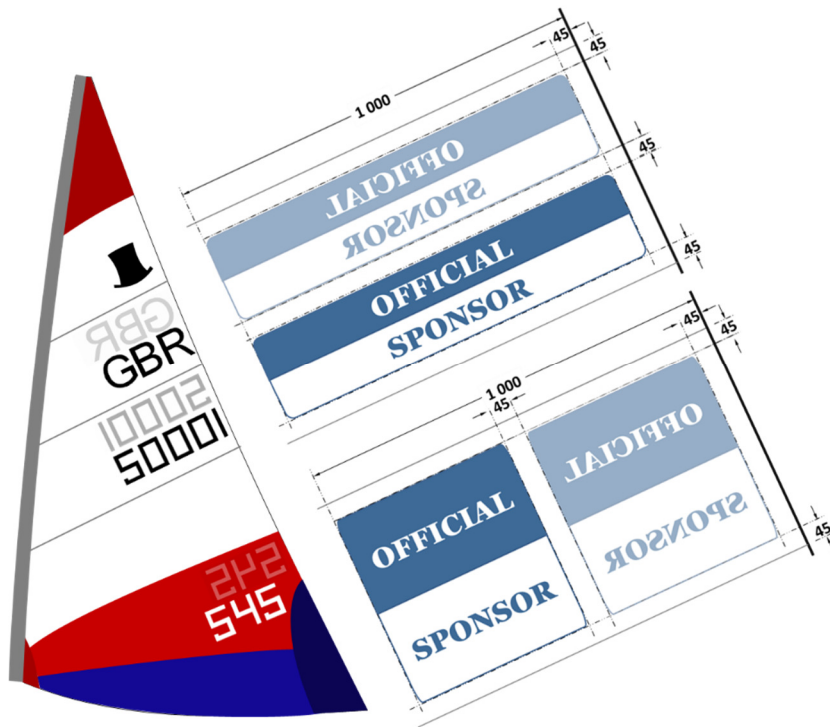
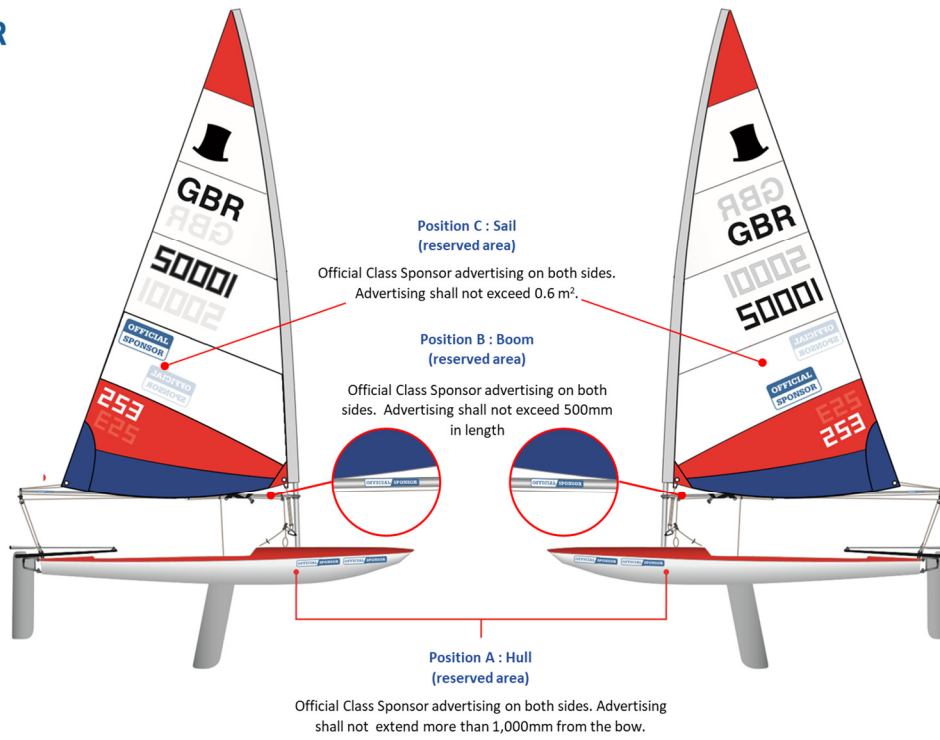
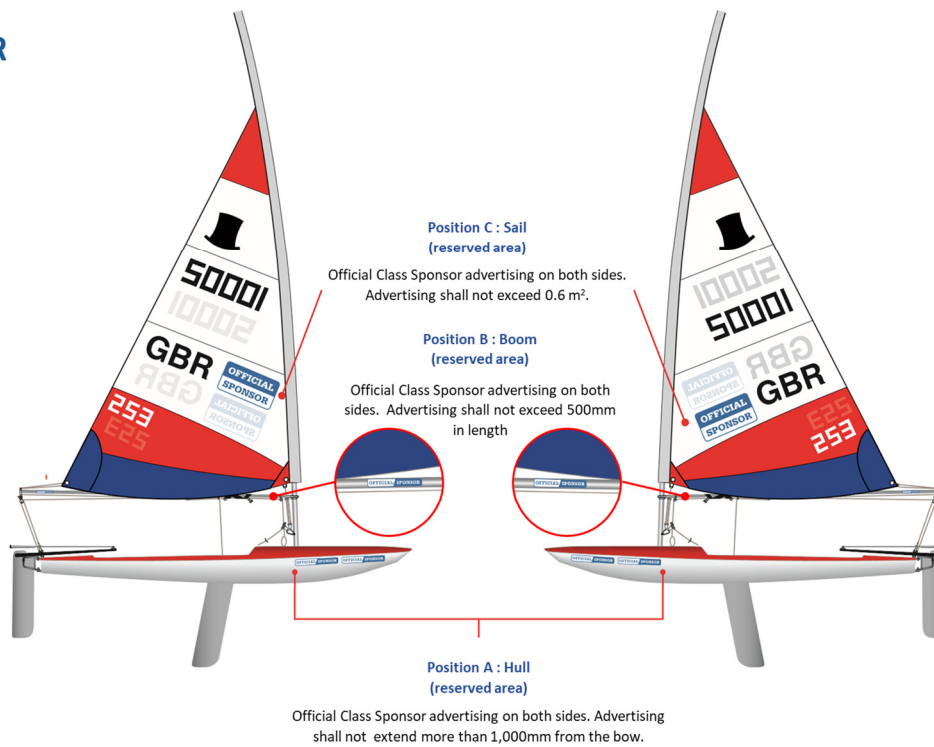

Figure 9
Figure 10
Figure 11
b) This space is reserved for Official **Class** Sponsors and shall not be used for Competitor advertising. (see Figure 9 and Figure 11)
a) On 5.3m2 **sails** such event advertising shall be placed in an area bounded by the top and bottom **seams** of the panel and a line perpendicular to the top **seam** and 1,000 mm from the **leech** (see Figure 9). The total area of such advertising shall not exceed 0.6m2 on each side of the **sail**. Any competitor advertising on this panel shall be clearly separated by 45mm from the edge of this area.
I.2.3 With reference to Figure 10 and Figure 11 below, organisers for NAITC and MNA events may use Positions A and B for advertising for their events, however NAITC's shall apply to ITCA (World) for any Event Advertising that is to be placed in Position C.